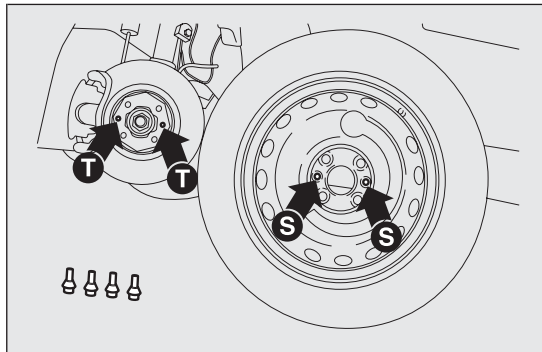

fig. 146
- fit the space-saver wheel aligning the openings S fig. 146 with the corresponding centering pins T;
- fit the standard wheel aligning the openings S fig. 146 with the corresponding centering pins T;